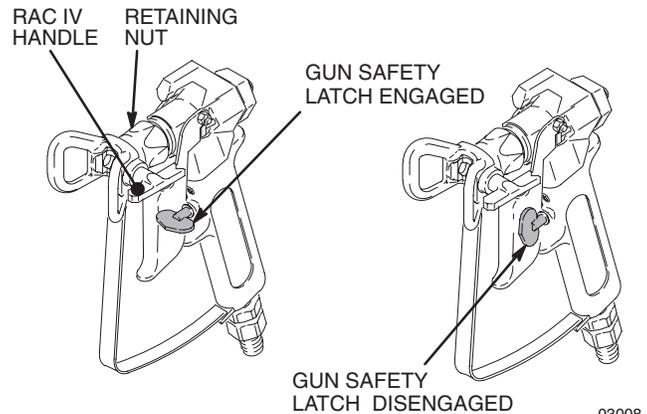

Fig. 5
- a. Open (handle down) pressure drain valve (G). If no secondary hose is installed, be sure secondary outlet cap is installed. Turn ON/OFF (L) switch ON. Slowly turn pressure adjusting knob clockwise until sprayer starts. When fluid comes from drain hose, close pressure drain valve (handle forward).
- b. Fig. 5. Disengage gun safety latch. Following warning, above, trigger gun until all air is forced out of system and paint flows freely from gun.
8. Fig. 5. Engage gun safety latch. Install spray tip. Install tip guard. See manual 308644, supplied.
- c. Test spray pattern. To adjust pattern, engage gun safety latch, loosen retaining nut. Position tip guard horizontally for horizontal pattern or vertically for vertical pattern. Then tighten retaining nut. Fig. 5.
3. If spray tip clogs, release gun trigger, engage gun safety latch, and rotate RAC IV handle 180°. See Fig. 5.